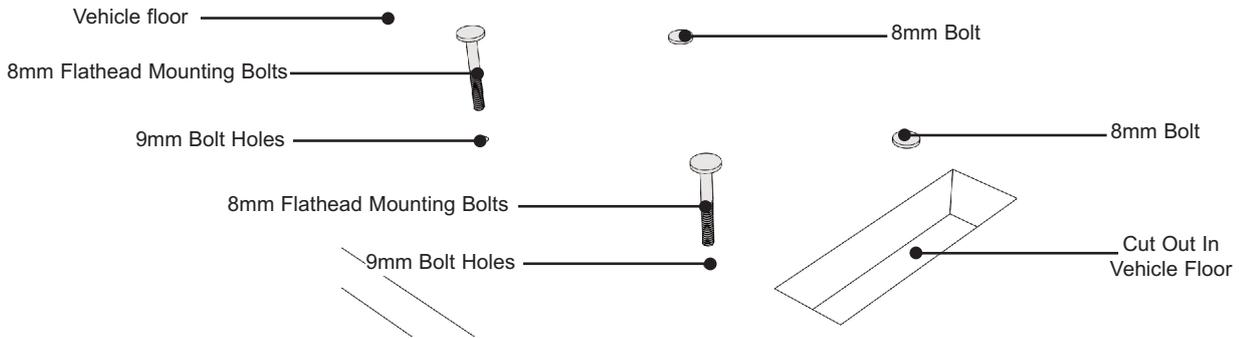

Fig. 10 Fit Mounting Bolts
- i. Insert 8mm flathead mounting bolts (not supplied) through the 9mm holes in the floor from the inside (as shown in Fig 10).